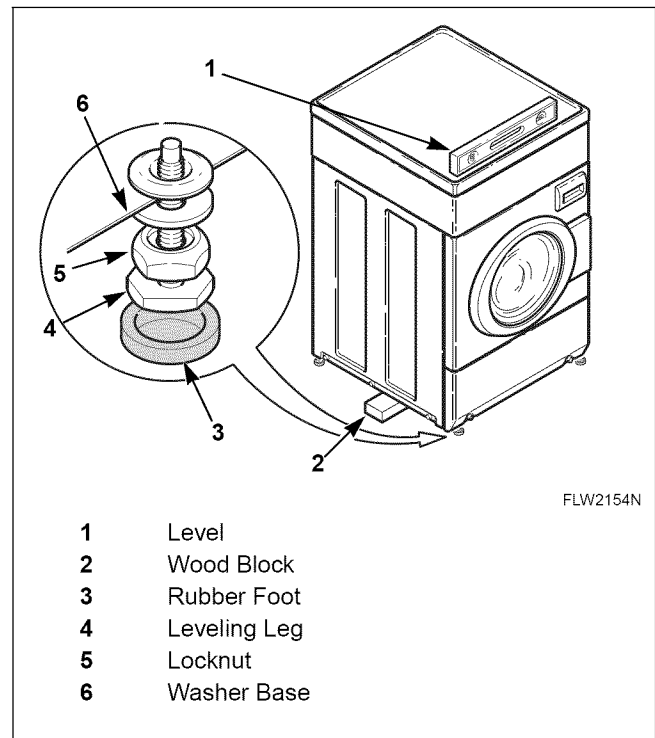

Figure 3
For easier access to leveling legs, prop up washer with a wooden block. Refer to *Figure 3*.
**NOTE: Level must rest on raised portion of top panel. Refer to *Figure 3*.**
Place rubber feet (supplied in accessories bag) on all four leveling legs. Refer to *Figure 3*.